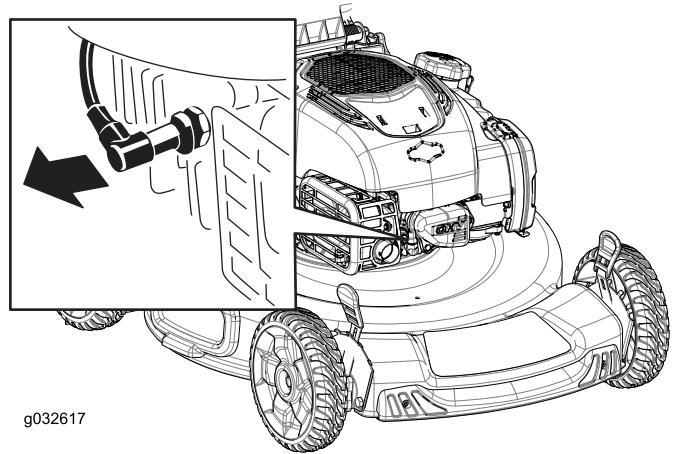

Figure 20
- Disconnect the spark-plug wire from the spark plug (Figure 20).